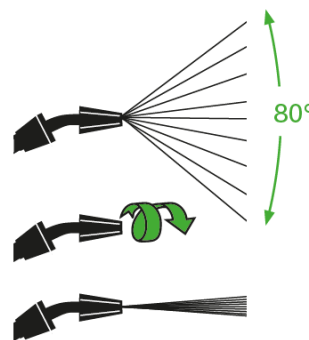

Fig. 3
- Adjust the spray pattern by rotating the sprayer nozzle (8). Refer to Fig. 3.